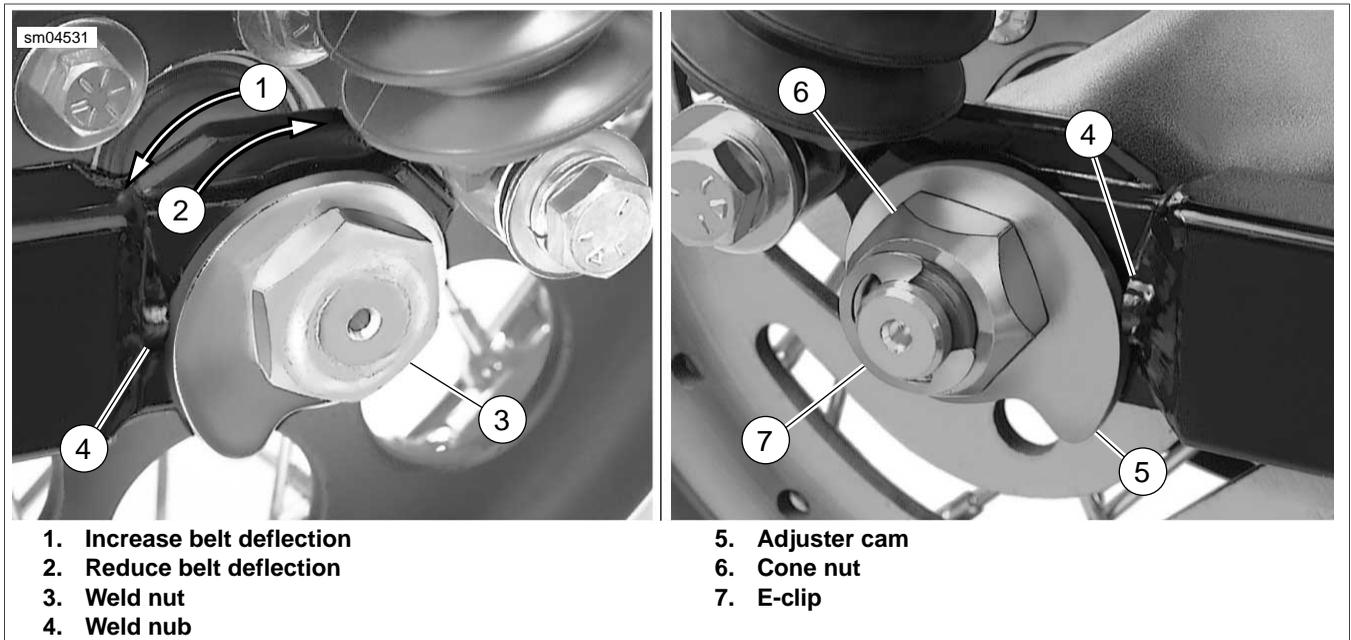

Figure 1-23. Rear Wheel Adjuster Cams
- c. Verify that cam just contacts weld nub on both sides of rear swingarm. If necessary, push wheel forward slightly to achieve the desired result. See Figure 1-23.
2. Push wheel forward slightly so that adjuster cam just contacts weld nub on both sides of rear fork. See Figure 1-23.